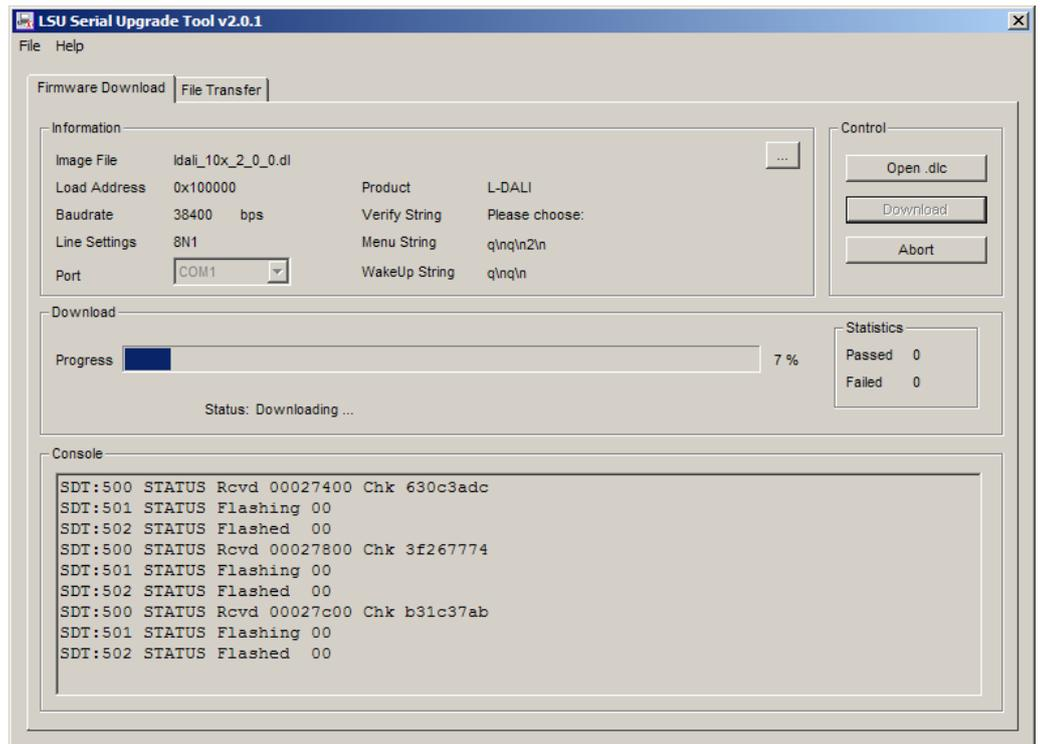

Figure 169: Progress Bar during Firmware Download.
2. If the L-DALI is not connected to COM1 you can change the port to COM2, COM3, or COM4. Make sure that the product shown under "Product" matches the device you are upgrading. Press **Download** to start the download. A progress bar as shown in Figure 169 can be seen.